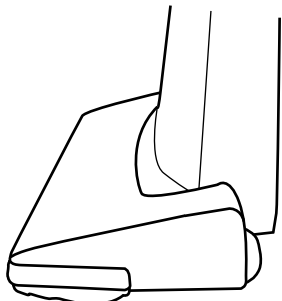

Fig. 2
2. Upright position - when cleaning tools are being used or for storage (Fig. 2).